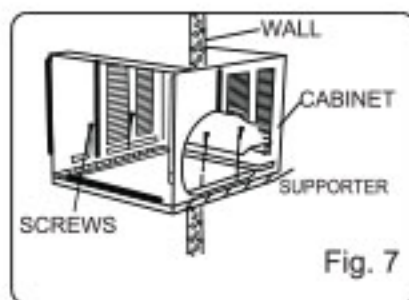

Fig. 7
3. When need to drain water, install the drain plug on the Chassis board. Then fix the cabinet on the bracket (provide for yourself) (See Fig.7).